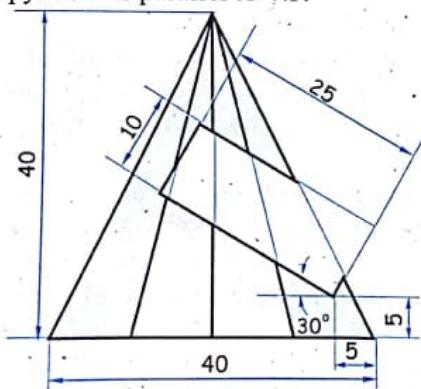

FIG. 12.78
41. Figure 12.78 given below shows the F.V. of a hexagonal pyramid side of base 20 mm and height 40 mm drilled by a rectangular hole of size 25 mm \times 10 mm, one of the sides of base of the pyramid is parallel to V.P.